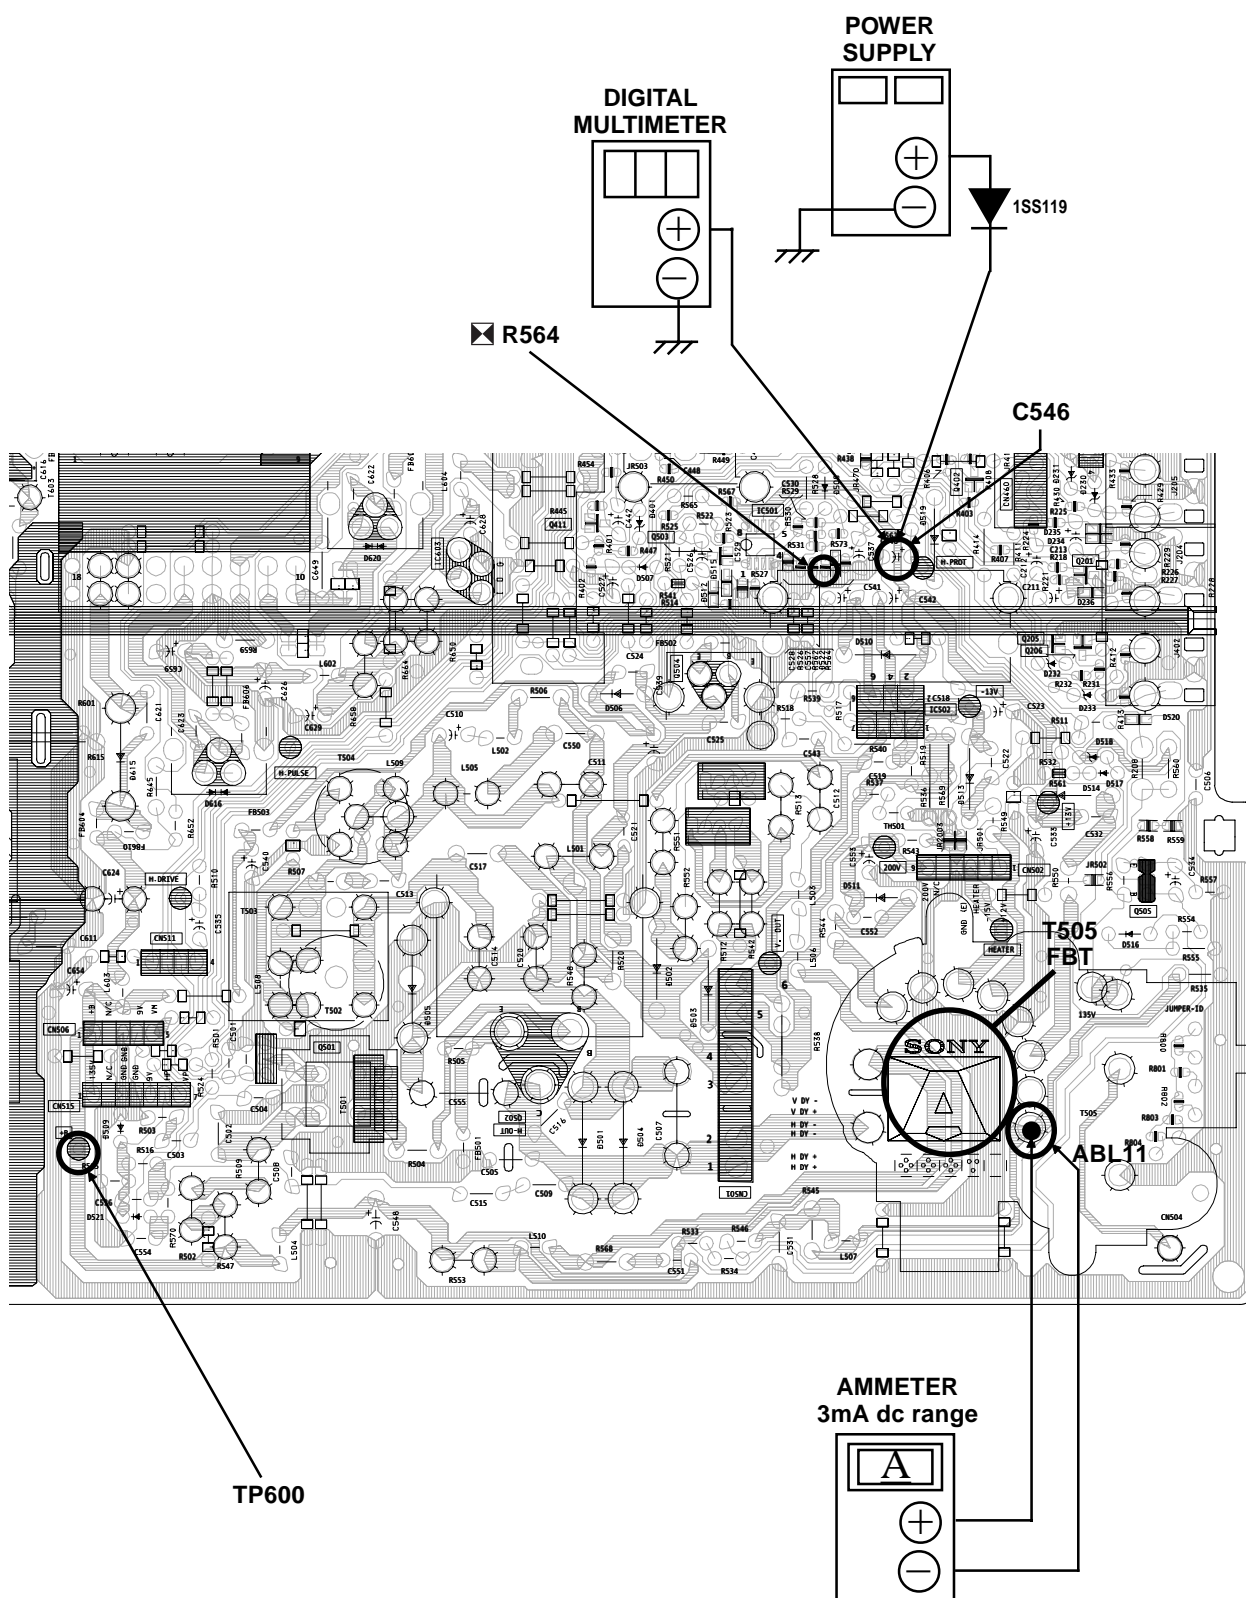

Figure 1
- Connect the current meter between Pin 11 of the FBT (T505) and the PWB land where Pin 11 would normally attach. (See Figure 1 on the next page.)
- Connect the digital voltmeter and the DC power supply via diode 1SS119 to C546 (+) and ground. (See Figure 1 on the next page.)